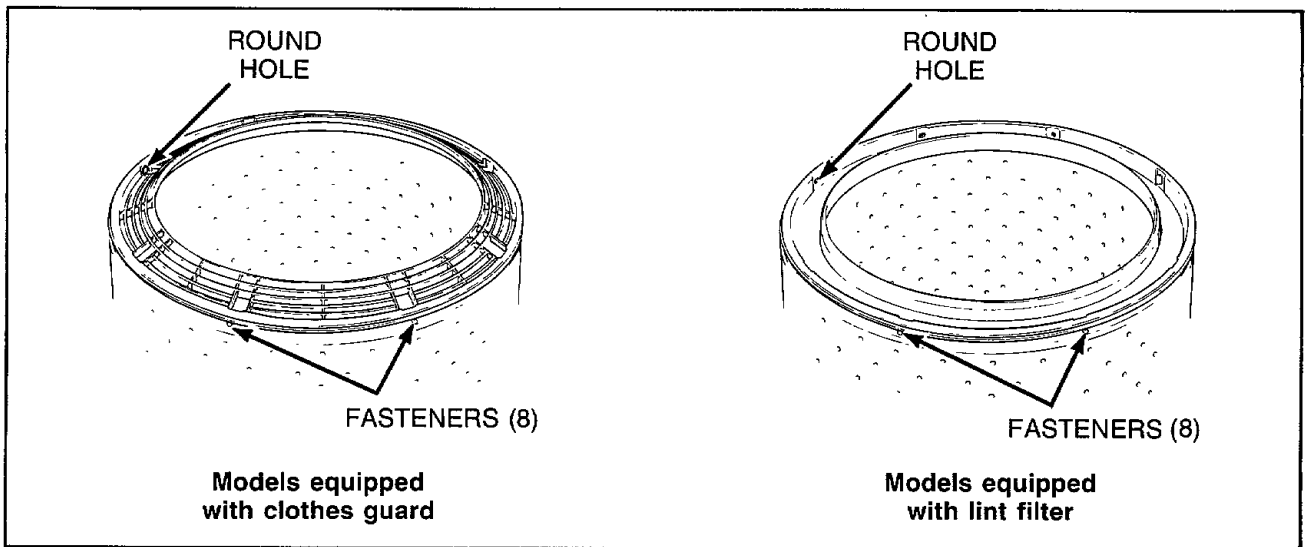

Figure 28
- g. Remove the eight fasteners holding clothes guard or lint filter to washtub, *Figure 28*.
**NOTE:** When installing clothes guard or lint filter, it is necessary to start the first fastener in the round hole, *Figure 28*. Place the remaining fasteners in their respective holes.